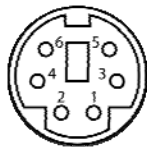

Figure 4-20: PS/2 Pinout and Configuration
- CN Pinouts: See **Figure 4-20, Table 4-19**